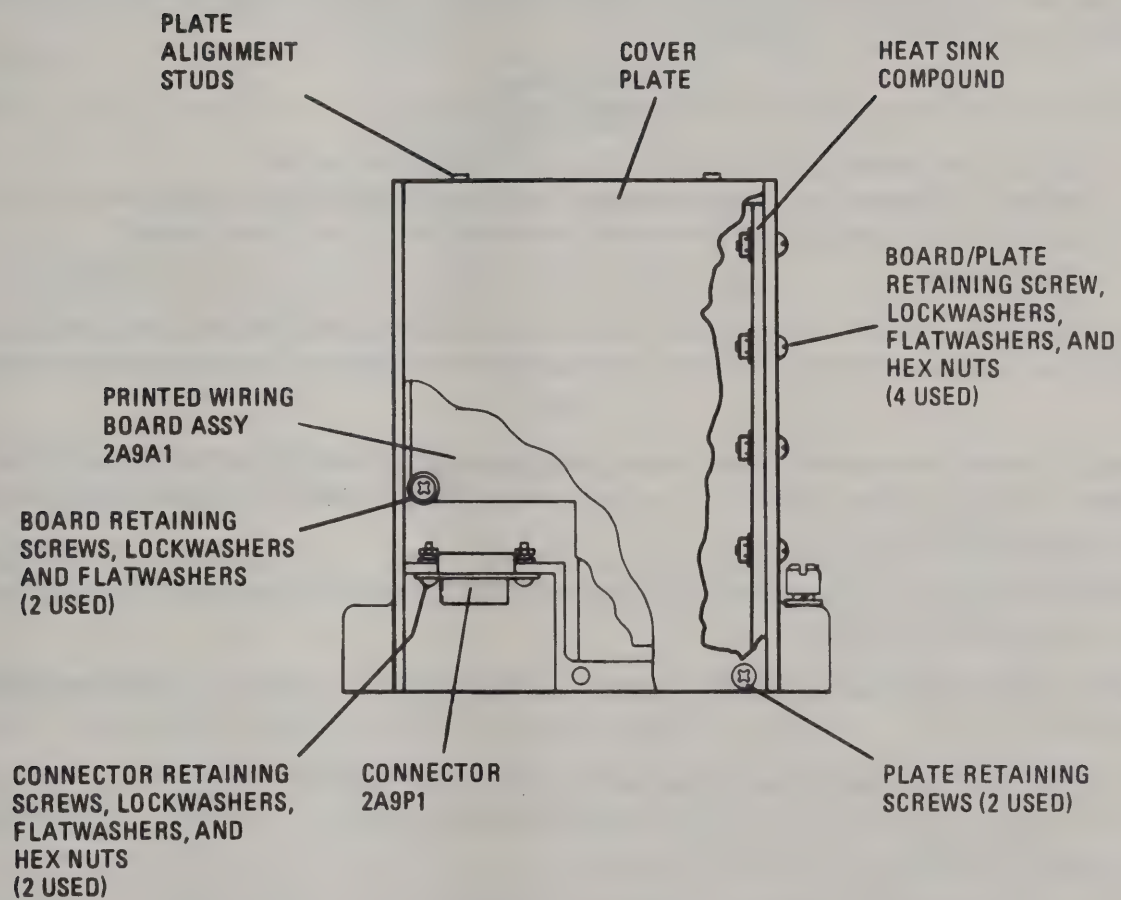

Figure 3-18. Static Inverter Power Assembly 2A9 - Disassembly Details
1. Refer to figure 3-18. Use a No. 1 Phillips screwdriver to loosen the two plate retaining screws. Remove screws and cover plate.
5. Static Inverter Power Assembly 2A9. Refer to figure 3-18. Prior to mechanical reassembly, apply Heat Sink Compound (RF Spec. No. 755017A4412) to the surfaces indicated.